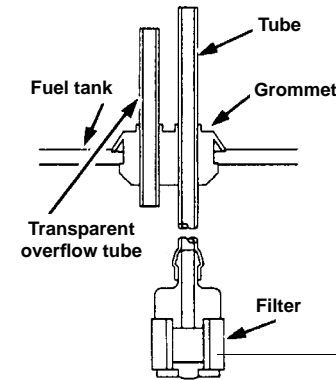

FIG. 27 – FUEL FILTER CLEANING
13.2.2) Fuel filter cleaning (Ref. to Fig. 27)